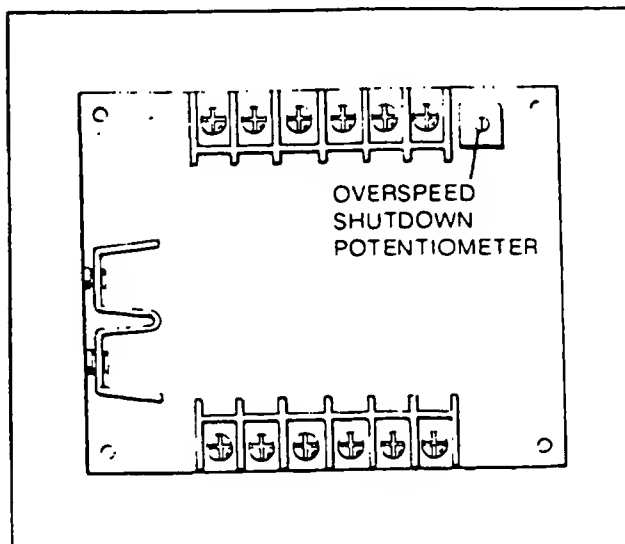

Figure 4. Engine Control Circuit Board
1. See Figure 4. Turn the **OVERSPEED SHUTDOWN POTENTIOMETER** all the way clockwise against its stop. **DO NOT FORCE.**
4. **SLOWLY** increase engine speed until the frequency meter reads about 70 Hertz. Hold that setting, then **SLOWLY** turn the **OVERSPEED SHUTDOWN POTENTIOMETER** counterclockwise (CCW) IN **VERY SMALL INCREMENTS**. Wait about four (4) seconds between each incremental adjustment. When engine shuts down, overspeed shutdown setting is correct.